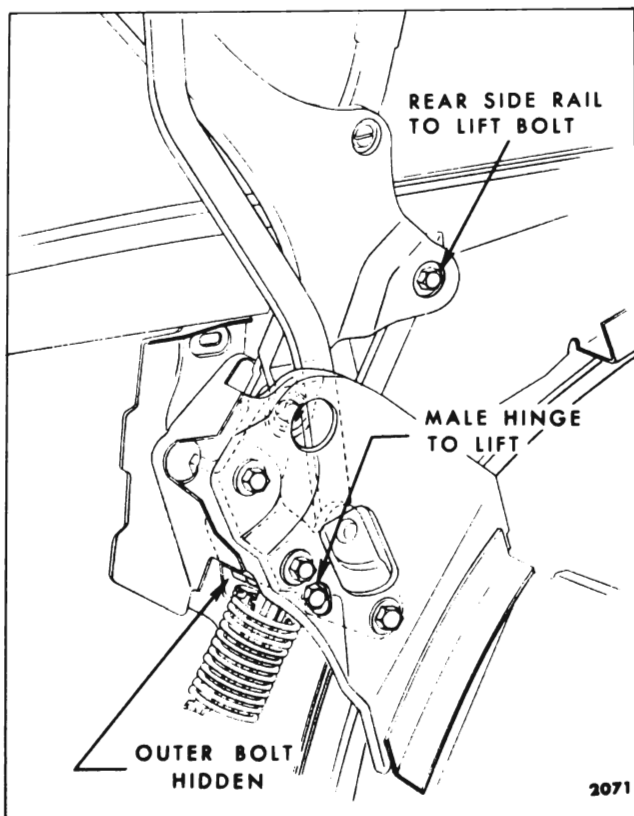
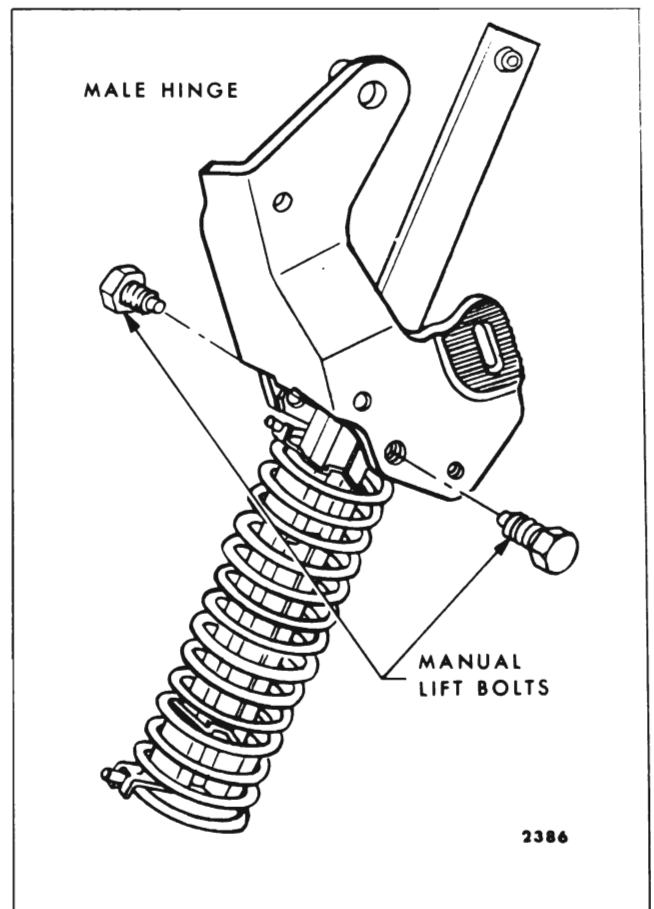

Fig. 13-74 — "A" Body Manual Lift Assembly
Fig. 13-75 — Manual Lift Attachment
4. Remove inner and outer bolt securing lift assembly to male hinge; then remove assembly from body (Fig. 13-74 for "A" Body and Fig. 13-75 for "F" Body).